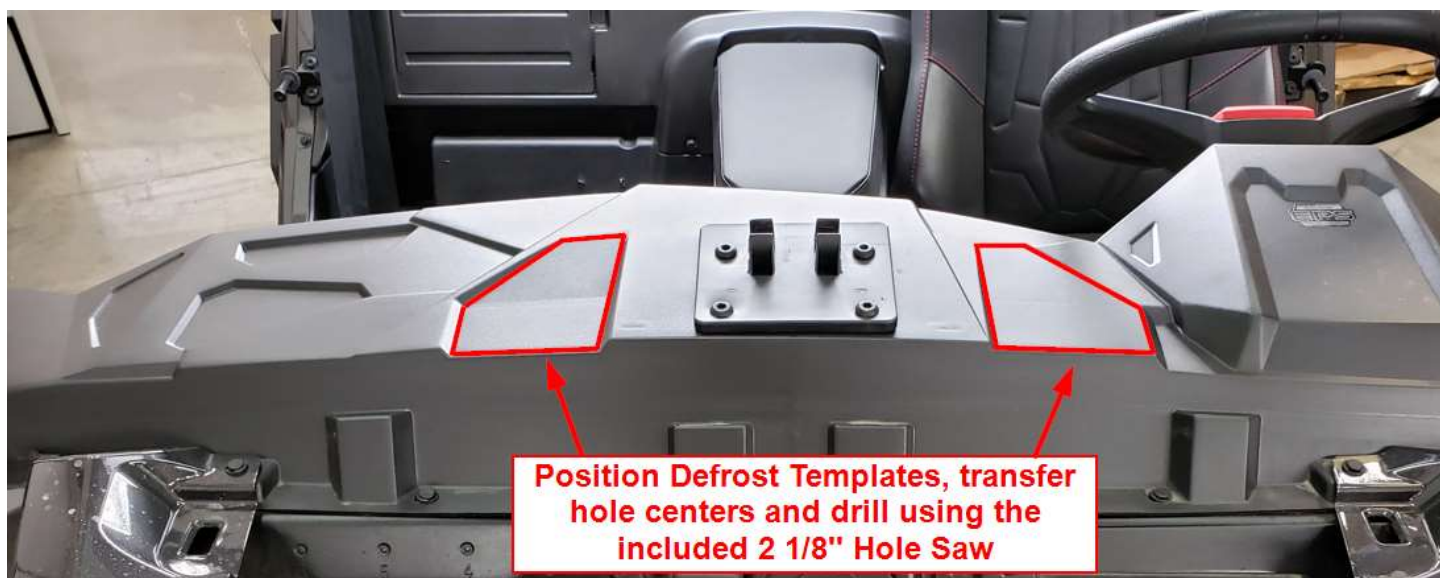

Figure 6
- a. Cut out the Defrost Vent Templates and position them on the top dash as shown in Figure 6. Mark the hole centers, **VERIFY NOTHING IS BEHIND THE LOCATION** and drill using the 2 1/8" Hole Saw included in the kit. Debur as necessary. **Installation Tip: After cutting the 2" vent holes, use a razor blade to cut a small "V" shaped notch anywhere along the hole. Each 2" Vent has an anti-rotation notch molded into it, fit the notch into the "V" groove for easier install,** as shown in Figure 7.